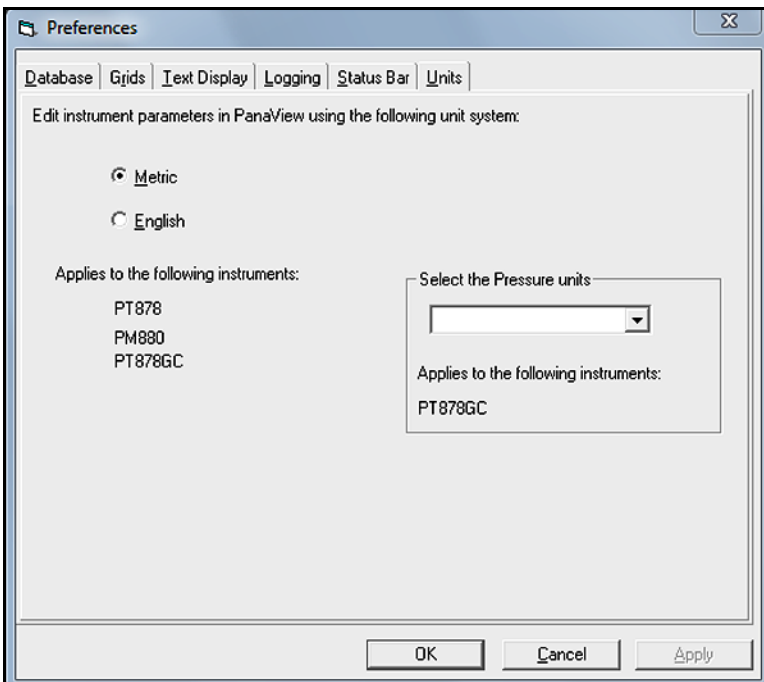

Figure 19: The Units Tab
- In the “*Preferences*” box, click the “*Units*” tab (see *Figure 19* below) to display or edit the available units.